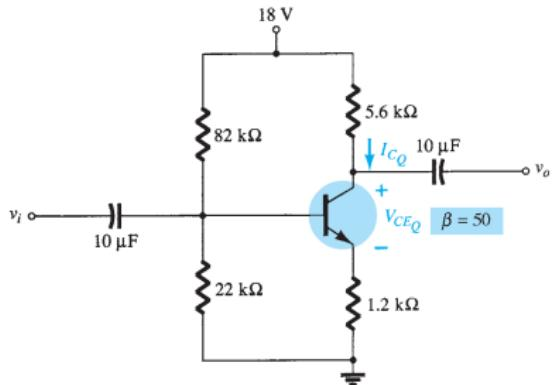

FIG. 4.37
**EXAMPLE 4.11** Determine the levels of  $I_{CQ}$  and  $V_{CEQ}$  for the voltage-divider configuration of Fig. 4.37 using the exact and approximate techniques and compare solutions. In this case, the conditions of Eq. (4.33) will not be satisfied and the results will reveal the difference in solution if the criterion of Eq. (4.33) is ignored.